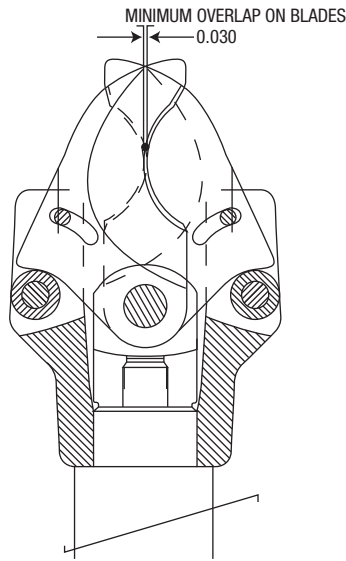

Figure 2
- Check for a minimum blade overlap of 0.030" on centerline prior to the end of the ram stroke. See Figure 2.